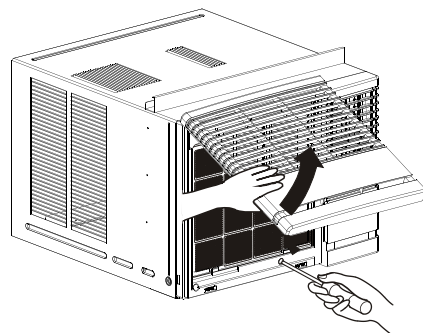

Fig.12
15. Pull down the inlet grille and secure it with a Type A screw ① through the front grille. (Fig.12)